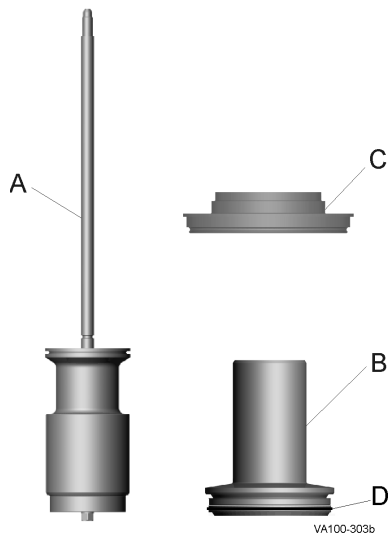

Figure 13 Stem Removal
The seat lift stroke is fixed at 0.16" upper and 0.28" lower. Confirm the stroke lengths after proper assembly of the upper stem (Figure 13, item B) and nut (Figure 20, item N). Both are tightened clockwise until stopped, metal to metal.
2. To remove the upper stem (Figure 13, item B), turn the stem counter-clockwise and remove it from the actuator. If the adapter (Figure 13, item C) comes out of the yoke, handle it with care. The blocker insert is retained to the upper stem. To re-install, tighten it clockwise until it is stopped.